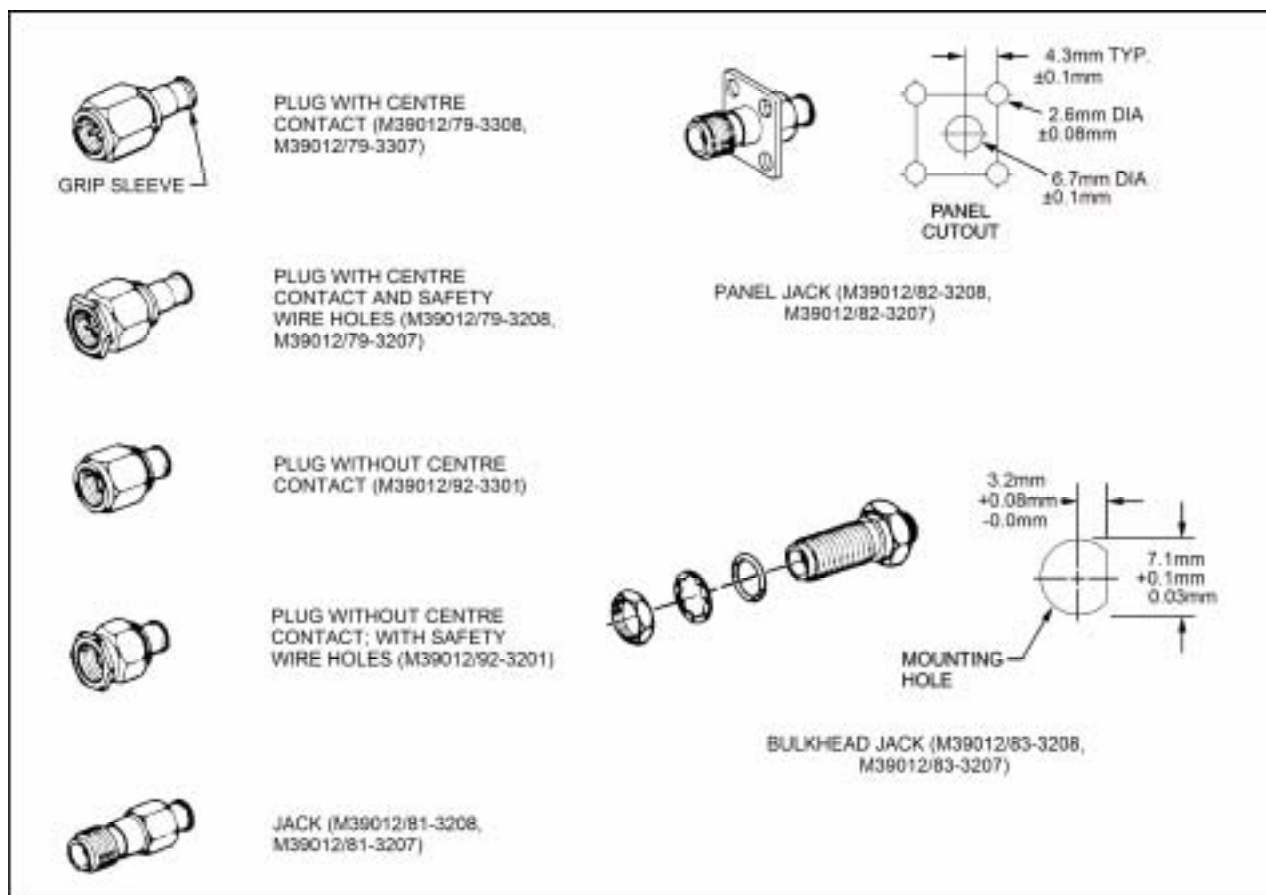

Figure 12-52 SMA Connectors M39012, Category F
41. SMA connectors, Category F, designed for use with RG-402/U (3.6mm OD) and RG405/U (2.2mm OD) semi-rigid cable, consist of a plug (with or without a centre contact) or jack body. The plug (or jack) is assembled and terminated to the semi-rigid cable by means of an integrated grip sleeve. See Figure 12-52. A plug couples to a jack by means of screw threading.